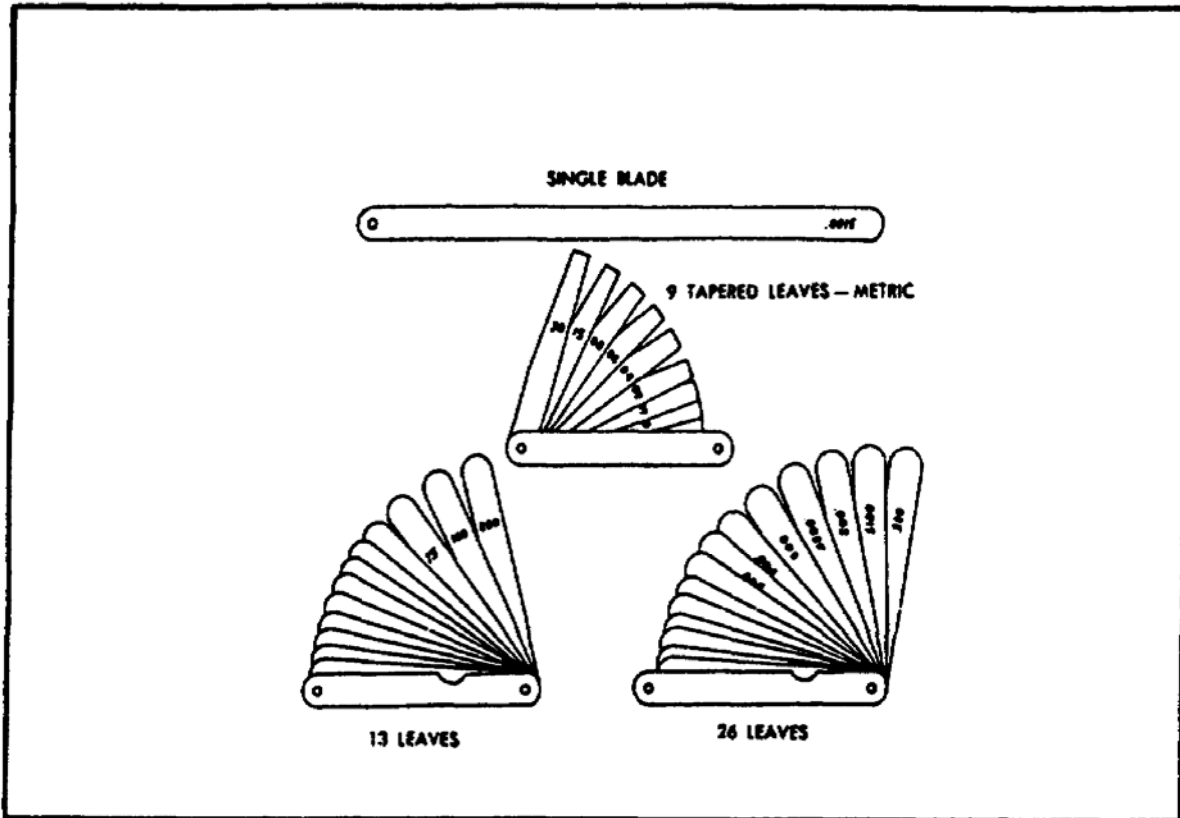

FIGURE 197. THICKNESS (FEELER) GAGES.
b. *Types of Thickness (Feeler) Gage*. Thickness (feeler) gages are made in many shapes and sizes; usually 2 to 26 blades are grouped into one tool and graduated in thousandths of an inch. Most thickness blades are straight, others are bent at the end at 45° and 90° angles. Some thickness gages are grouped so that there are several short and several long blades together. Thickness gages are also available in single blades and in strip form for specific measurements. For convenience, many groups of thickness gages are equipped with a locking screw that locks the blade to be used in the extended position. Figure 197 shows several types of thickness gages supplied by the Army Ordnance Supply System.